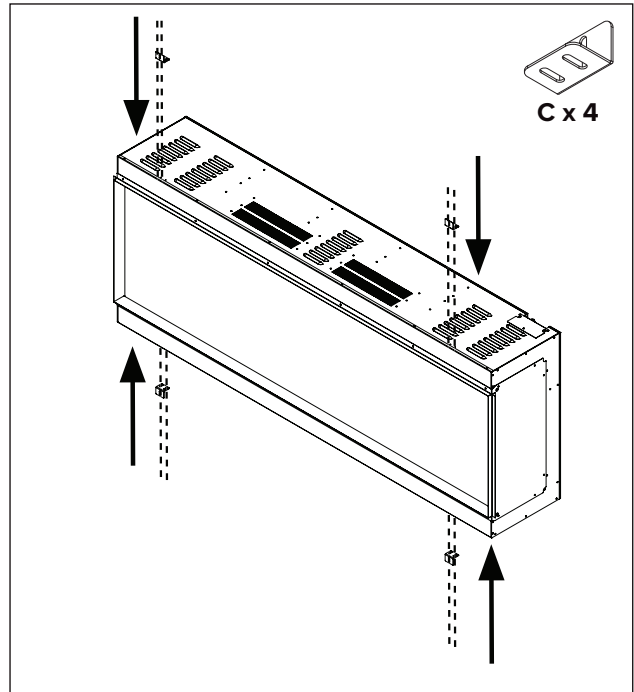

Fig. 2
2. Install the 4 metal brackets (supplied) using the 8 screws and washers previously removed (**Fig. 2**).